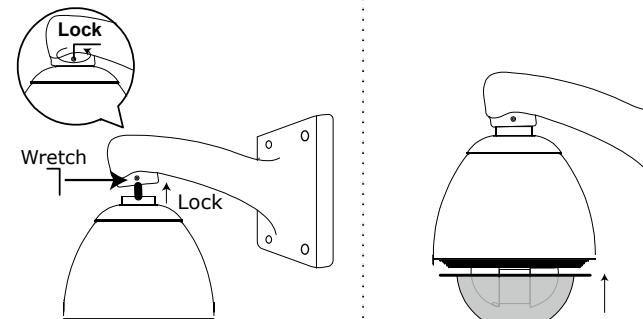

Figure 5
Step 6: Collect and hide the cables in the bracket and lock the housing with the wrench to the bracket (Figure 5).